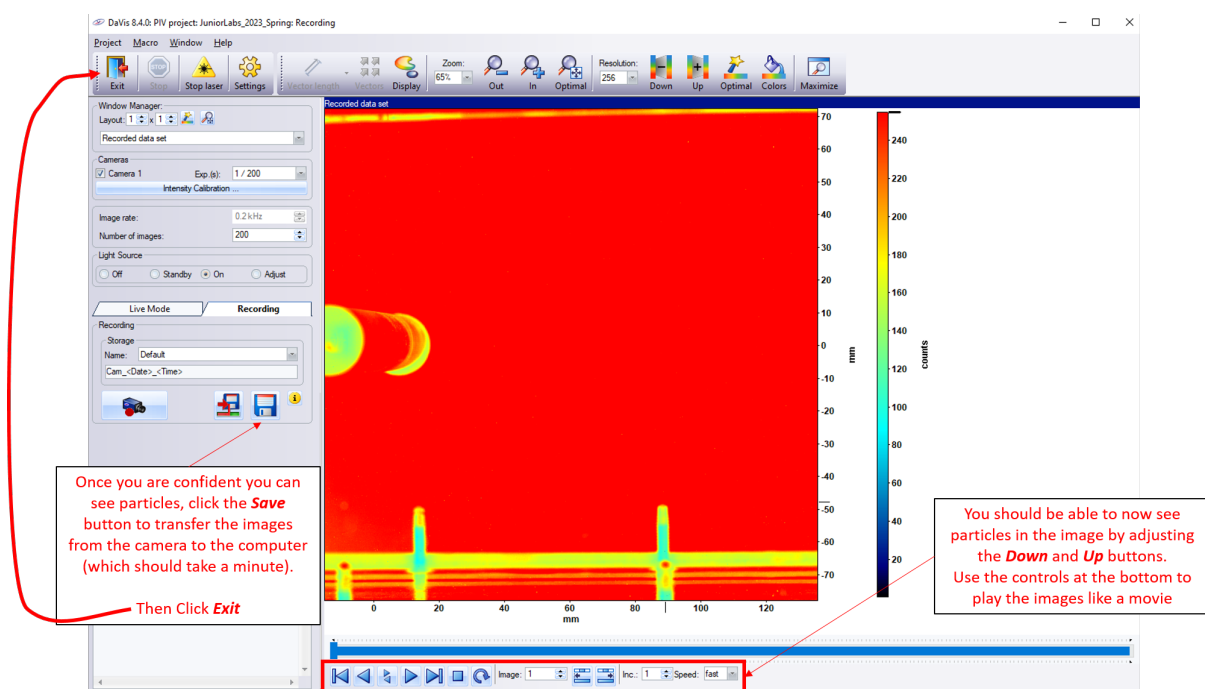

Figure 9: Saving images to the computer
- Under recording tab, click store all recorded images (blue floppy disk). This will take about 60 seconds, bottom left of screen will say “Done” once it is finished, see Figure 9.
- Click “Exit”, see Figure 9 to return to the main window.